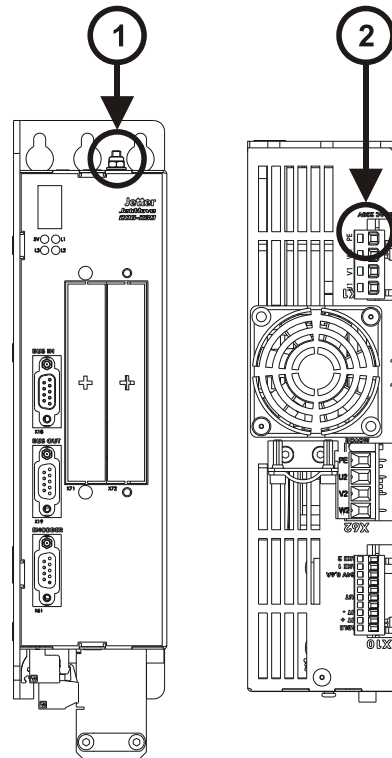

Fig.: 1: Double earthing
- Connect the PE conductor to the PE bolt (1) located on the top side of the rack as well as to the PE terminal X1 (2) (please refer to Fig. 1).
- Connect the protective earth (PE) to terminal X1.Please refer to fig. 1 on page 16